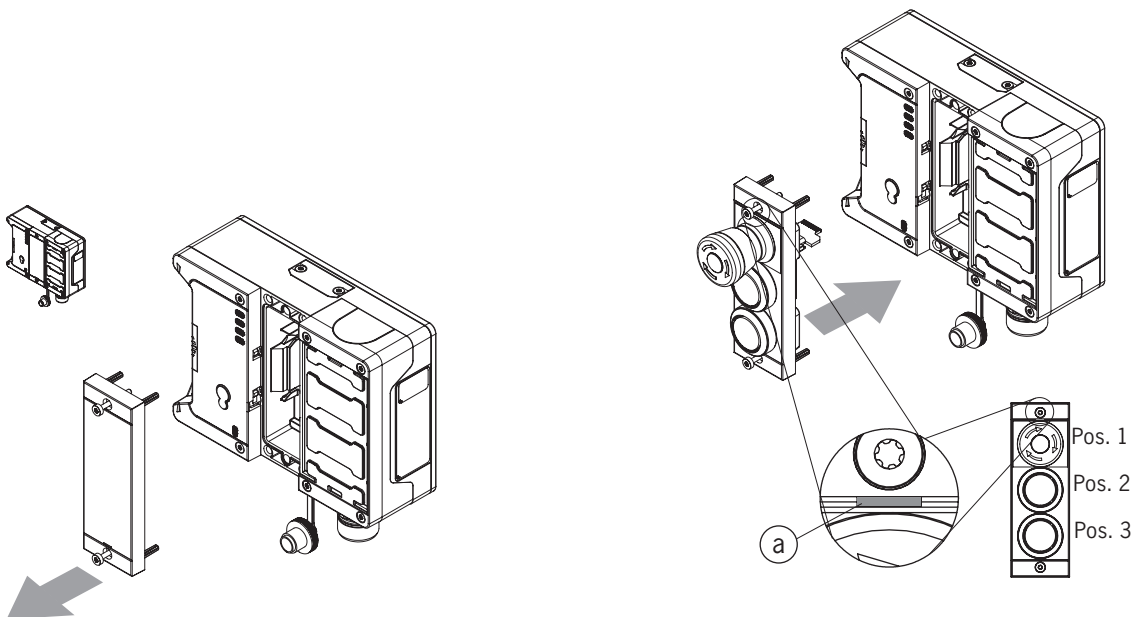

Figure 10: Mounting submodule
- › Pay attention to the alignment of the submodule. See marking (a) in *Figure 10: Mounting submodule*. Submodules can also be installed rotated by 180°. The marking (a) always indicates the first position to be equipped. This is the emergency stop S1 position in the example below.